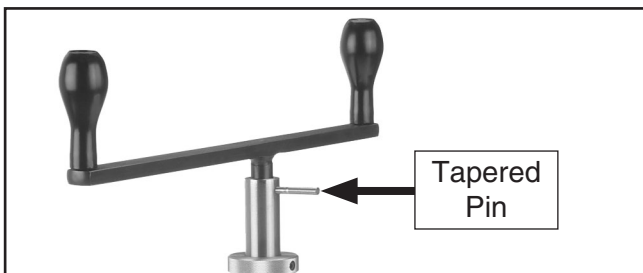

Figure 5. Handle assembly installed on spindle.
4. Insert the handle assembly into the top of the spindle, then slide the tapered pin through the spindle and into the handle assembly (**Figure 5**).